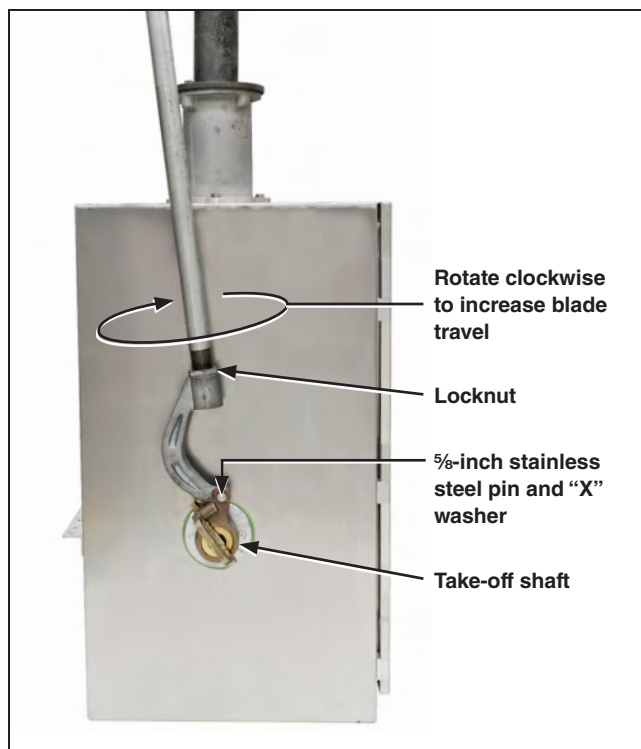

Figure 25. The rear of switch operator.
- Attach the “C”-shaped clevis at the lower end of the vertical-operating-pipe assembly to the take-off shaft on the rear of the operator using a ⅝-inch stainless steel pin and stainless steel “X” washer furnished. See Figure 25.
If necessary, loosen the locknuts at the top and bottom of the vertical operating pipe, and rotate the pipe *counterclockwise* (as viewed from the top) to increase blade travel. Tighten the locknuts. See Figure 25 on page 23.
If the disconnect blades are not open to this extent, loosen the locknuts at the top and bottom of the vertical operating pipe and rotate the pipe clockwise (as viewed from the top) to increase blade travel, and tighten the locknuts. See Figure 25 on page 23.